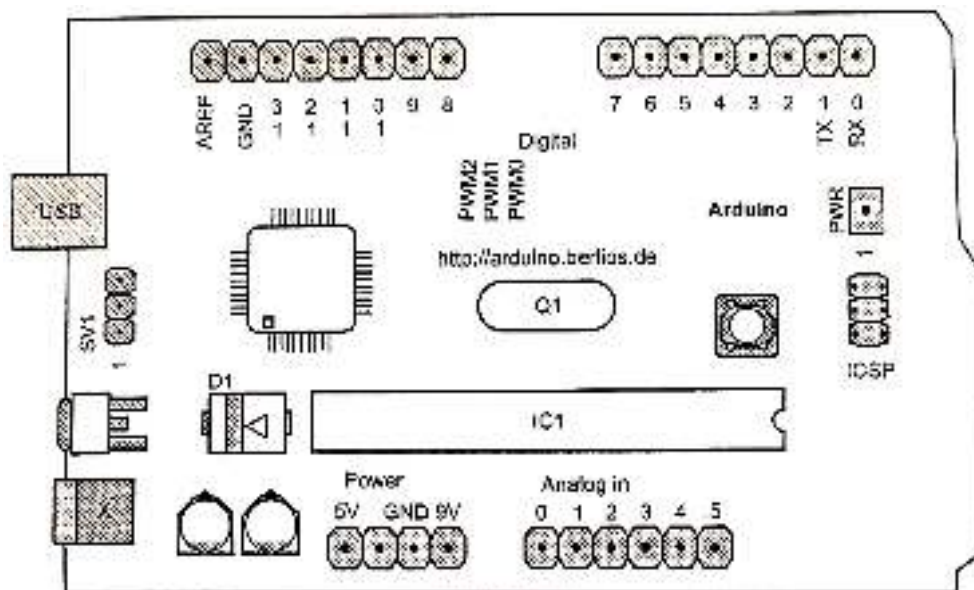

Figure 4.13 Arduino Board
- Fig.4.13 shows Arduino board.